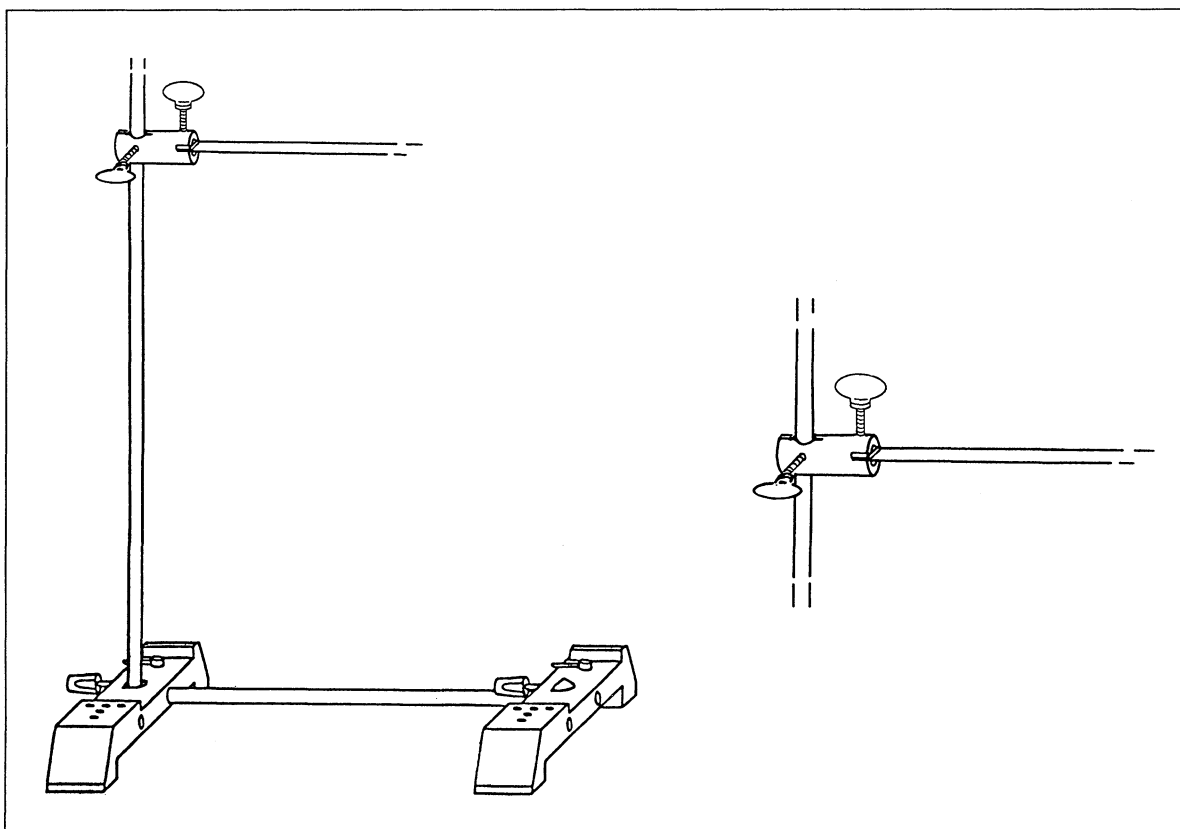

Fig. 1 Setup for investigating the properties of a bimetal
1. Set up the apparatus as shown in fig. 1.